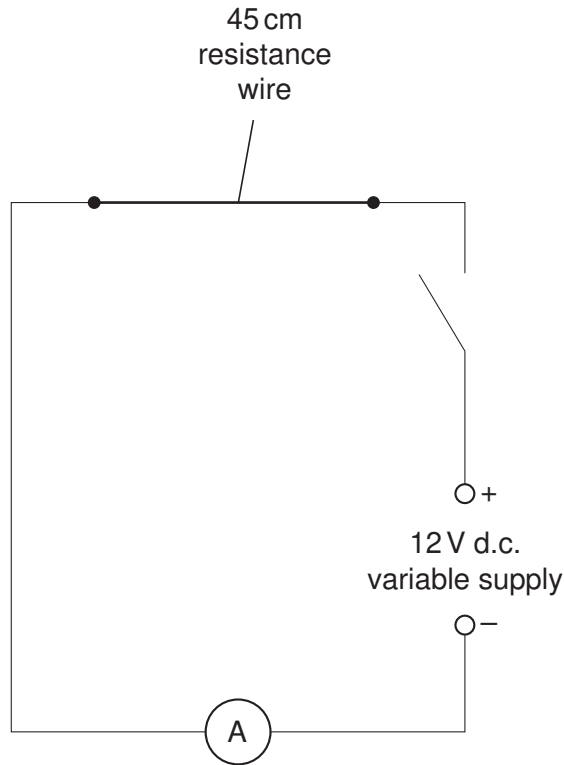

Fig. 2.2
- (a) Connect 45cm of resistance wire, an ammeter and a 12V variable power supply in series, as shown in Fig. 2.2. Use the crocodile clips available to make electrical contact with the measured length of the resistance wire.